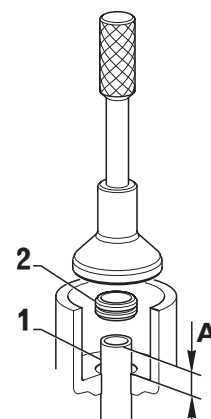

FIG. 4-2c
If the sealing ring (item 2, Fig. 4-2c) has to be replaced, proceed as follows:
- Adjust oil suction pipe to measure "A" (A = 26 mm) (Fig. 4-2c)